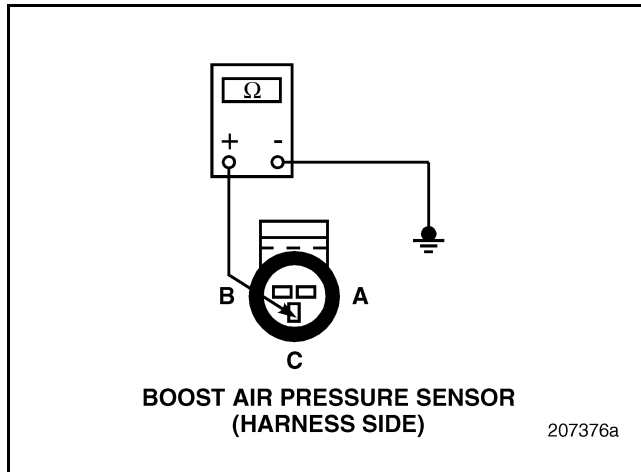

Figure 166
2. Check for continuity between Boost Air Pressure (BAP) Sensor harness connector pin C (signal line) and a good ground (see Figure 166).